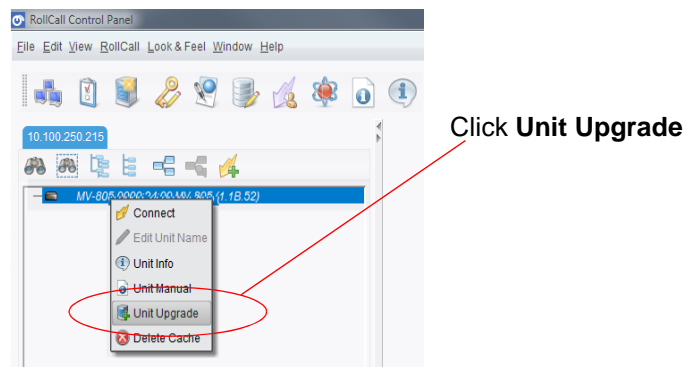

Figure 106 Right-Click Menu
- Right-click on the connected Multiviewer name in the RollCall window. See Figure 106.